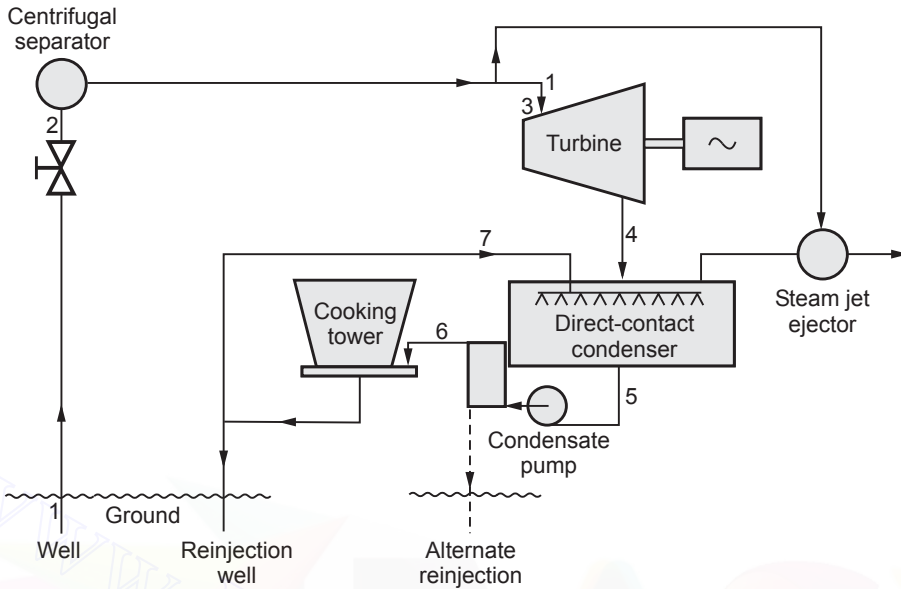

Fig. 5.6.2 Schematic of vapour dominated power plant
- The vapour dominated power plant is as shown in the Fig. 5.6.2.
- Dry steam from the well (1) at 200 °C is used.
(2) The pressure there rarely exceeds 7 bar.
(3) Processes 1-2 and 2-3 are essentially throttling process with constant enthalpy.
- Turbine exhaust steam at 4 mixes with cooling water (7) that comes from a cooling tower.
- The mixture of 7 and 4 is saturated water (5) that is pumped to the cooling tower (6).